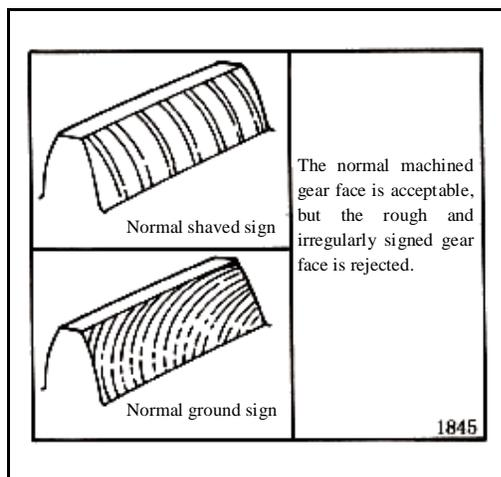

Fig. 4-1
**Caution: Do not confuse the tool sign caused during matching and that squeezed. The typical machining signs are shown in Fig. 4-1.**